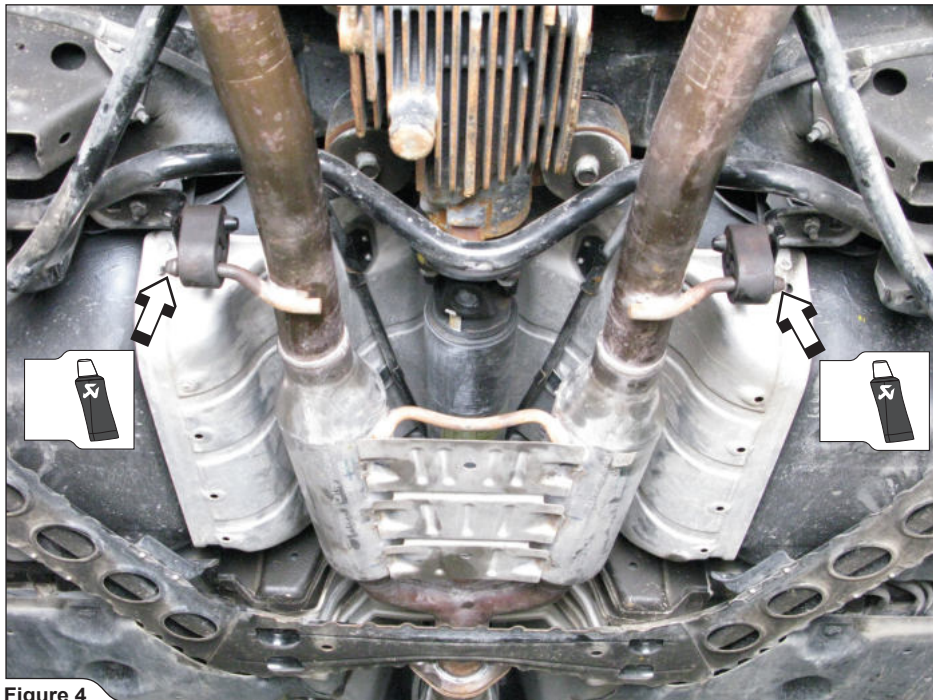

Figure 4
4. **For Evolution only:** pull the middle pipes off the marked rubber brackets and remove them off the vehicle (**Figure 4**).